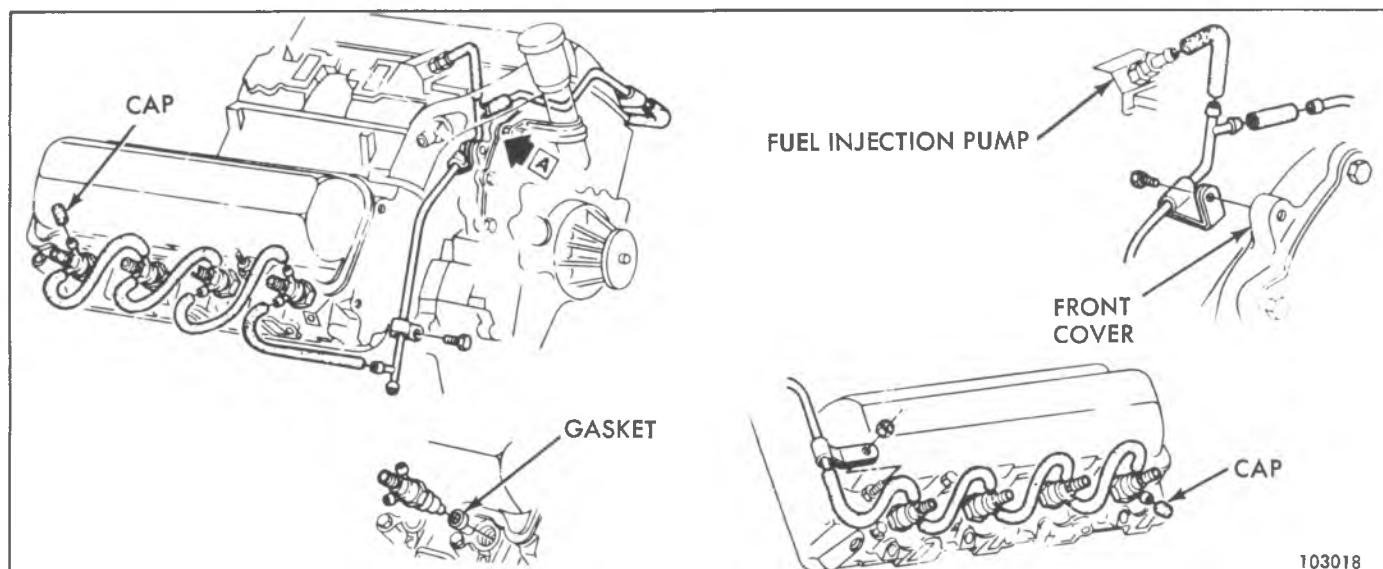

Fig. 6C6-14--Nozzle Installation
7. Observe position of metering valve spring over the top of the guide stud. This position must be exactly duplicated during reassembly (Fig. 6C6-15).
11. Install new pump cover seal. Make sure the screws are not in the cover and position the cover about 1/4 inch forward (toward shaft end) and about 1/8 inch above the pump (Fig. 6C6-16).